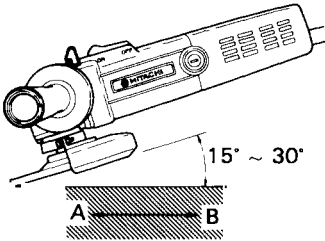

Fig. 2
2. Do not utilize the Grinder entire surface when grinding. Use only its peripheral surface by tilting the wheel at an angle of $15^{\circ} \sim 30^{\circ}$, as shown in Fig. 2.